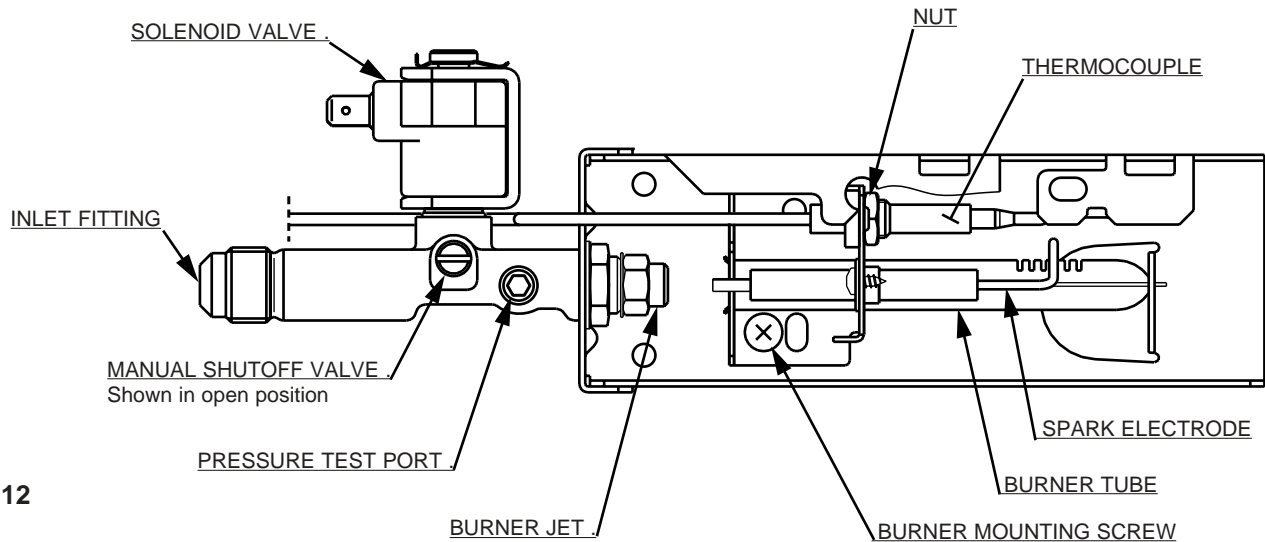

FIG. 12
- D. The LP gas pressure should be checked and the main regulator readjusted if pressure is incorrect. The correct operating pressure is 11 inches of water column. The correct place to take the LP gas pressure is at the test port just ahead of the burner jet. (See FIG. 12).
5. Remove the burner mounting screw and remove the burner assembly. (See FIG. 12).
Set main regulator so pressure does not drop below 11 inches of water column at pressure test port. (See FIG. 12).